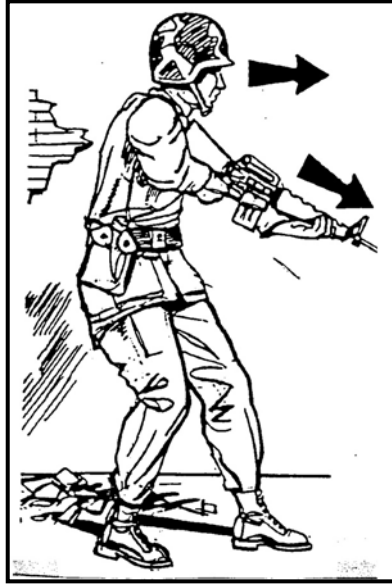

Figure 7-35. Weapon held at the low ready.
(3) **Low Ready Position** (Figure 7-35). The butt of the weapon is placed firmly in the pocket of the shoulder with the barrel pointed down at a 45-degree angle. The nonfiring hand grasps the handguards toward the front sling swivel, the trigger finger is outside of the trigger well, and the thumb of the firing hand is on the selector lever. To engage a target from the low ready, the gunner brings the weapon up until the proper sight picture is achieved. This technique is best suited for movement inside of buildings.